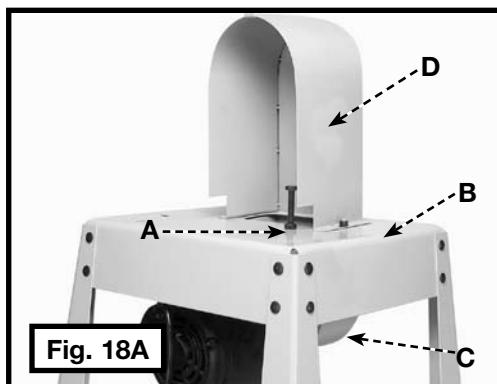

Fig. 18A
NOTE: The illustration in Fig. 18A shows the stand without the band saw for clarity.
1. Insert the two threaded studs on the lower pulley guard (C) Fig 18A through the two holes in the top of the stand (B).
2. Align the two holes in the upper pulley guard (D) Fig. 18A with the two threaded studs on the lower pulley guard (C). Place the upper pulley guard on the studs of the lower pulley guard.